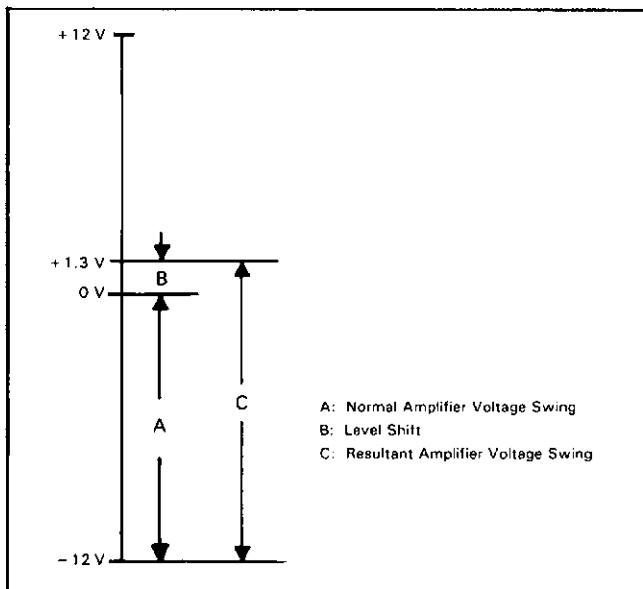

Figure 8-29. Level Shift for Low Ohms Offset Circuit.
8-134. Figure 8-29 and 8-30 illustrate how this circuit operates. The negative voltage swing at the output of the Input Amplifier is normally between 0 V and -12 V (A). The low ohms offset circuit level shifts the dc reference at the amplifier output from 0 V to +1.3 V (B) which increases the amplifier voltage swing range from 12 V (A) to 13.3 V (C). This is done by moving the bottom of, part of the U200 resistor divider from ground to -12 V_A.